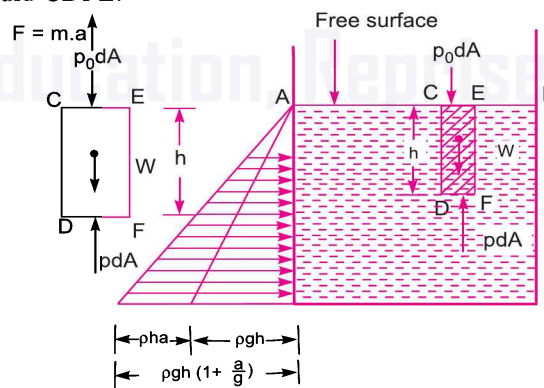

Fig. 3.49
**3.8.2 Liquid Container Subjected to Constant Vertical Acceleration.** Fig. 3.49 shows a tank containing a liquid and the tank is moving vertically upward with a constant acceleration. The liquid in the tank will be subjected to the same vertical acceleration. To obtain the expression for the pressure at any point in the liquid mass subjected to vertical upward acceleration, consider a vertical elementary prism of liquid *CDFE*.
Fig. 3.49 shows the variation of pressure for the liquid mass subjected to a constant vertical upward acceleration.